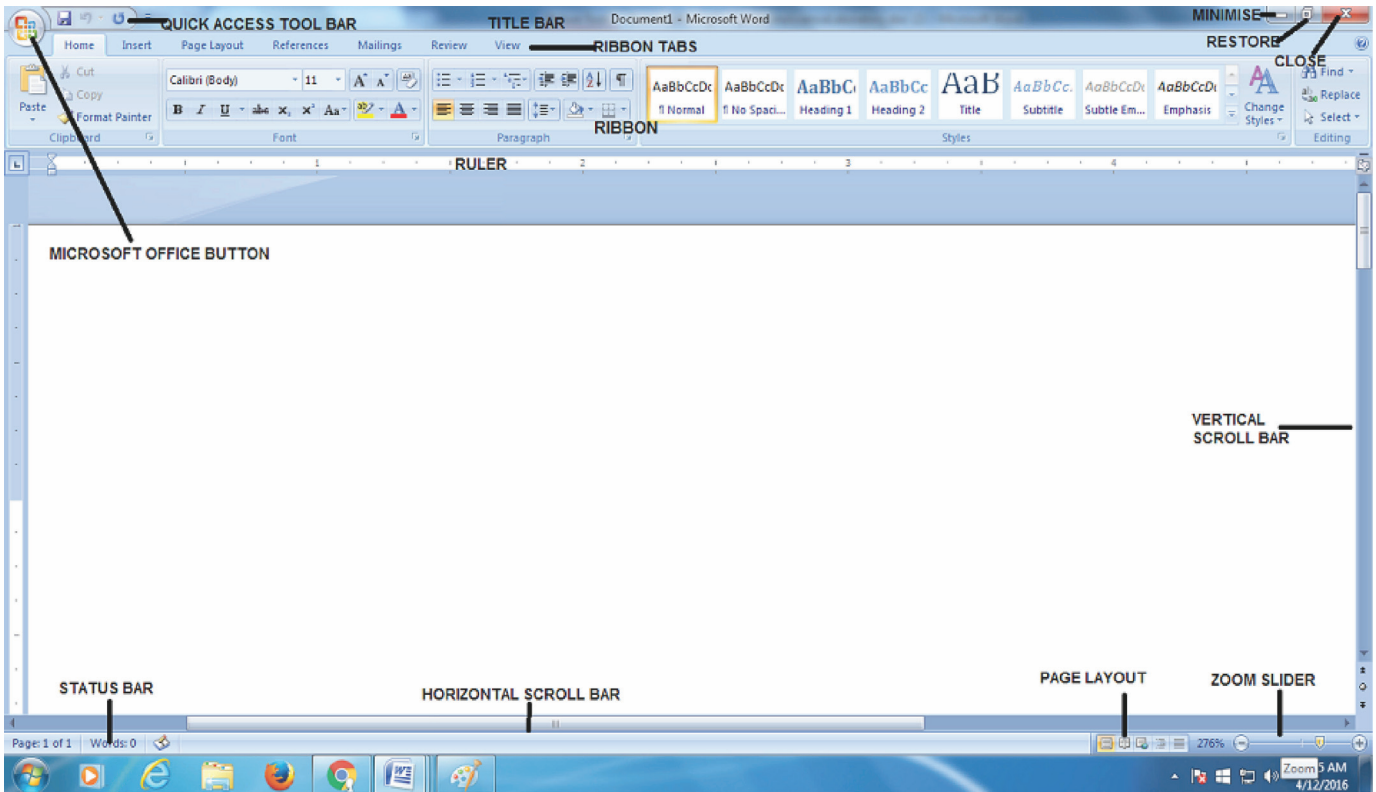

Fig. 14.2: Word document.
Above the blank screen on the top is the **Title Bar** that has the name of the document displayed. On the right top most corner of the screen are three buttons **Minimise**, **Maximise/Restore** and **Close** (See Figure 14.2).
- To minimize and maximize/restore your documents click on the top right hand corner of the document on the related buttons (see Fig.14.2 again).